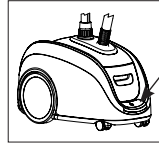

Figure 11
5. Press the foot press ON/OFF switch to the ON position. The switch will illuminate (Figure 11).